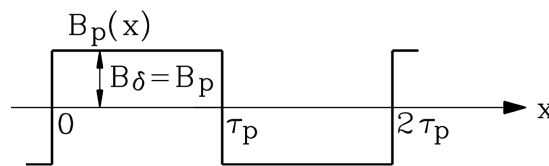

Fig. 3.8-2: No-load permanent magnet air gap flux density curve at 100% pole coverage ratio of magnets
2) *FOURIER* analysis leads to fundamental harmonic of a rectangular field curve of Fig. 3.8-2: